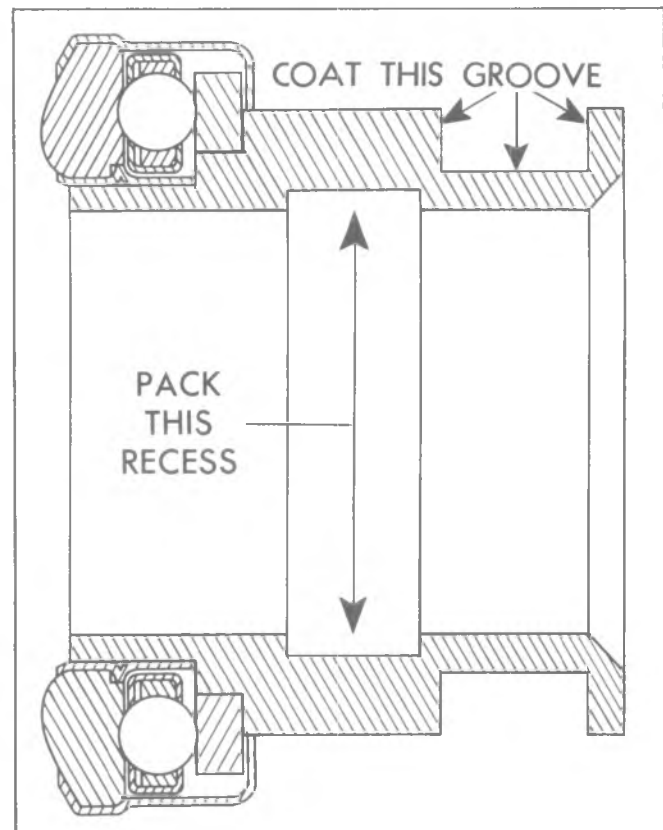

Fig. 7C-13--Lubrication Points on Clutch Throwout Bearing
10. Pack lubricant in the recess on the inside of the throwout bearing collar and coat the throwout fork groove with a small amount of graphite grease, as shown in Figure 7C-13.